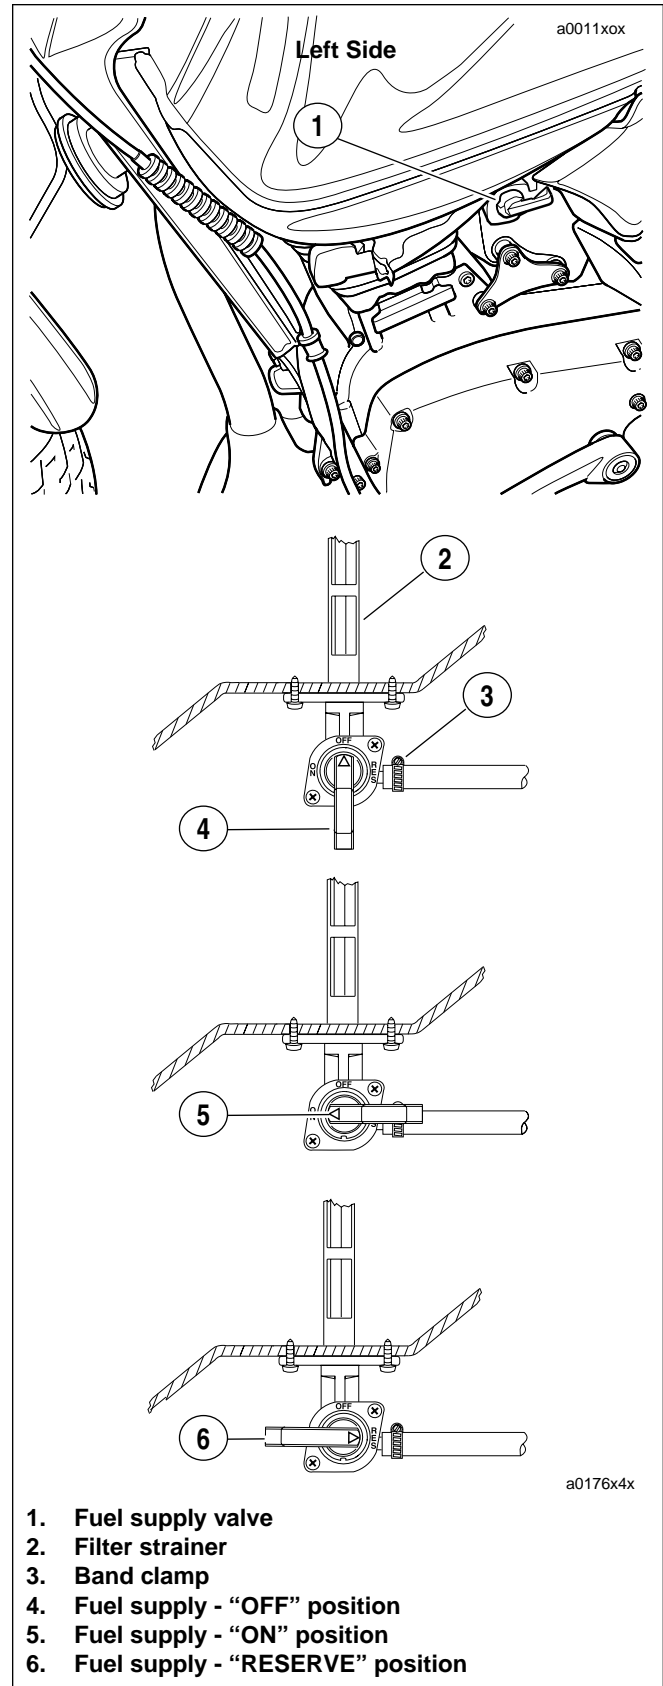

Figure 1-45. Fuel Supply Valve
- a. See Figure 1-45. Rotate handle on the fuel supply valve to the fully vertical position (4) of to shut the gasoline supply to the carburetor "OFF".
- d. See Figure 1-45. Rotate handle of fuel supply valve to "RES(ERVE)" (6) of to start the flow of fuel.